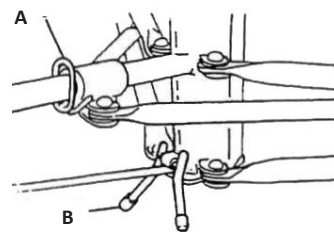

FIG. 1
1. Set up the tripod base (Figure 1):
- Press down on the slide yoke ring (A). Hold the ring down while you swing the two forward legs out until the yoke ring snaps into the locking hole on the bottom of the slide tube.
- To prevent the tripod base from rolling backward during assembly, lower the backstop (B) as shown.